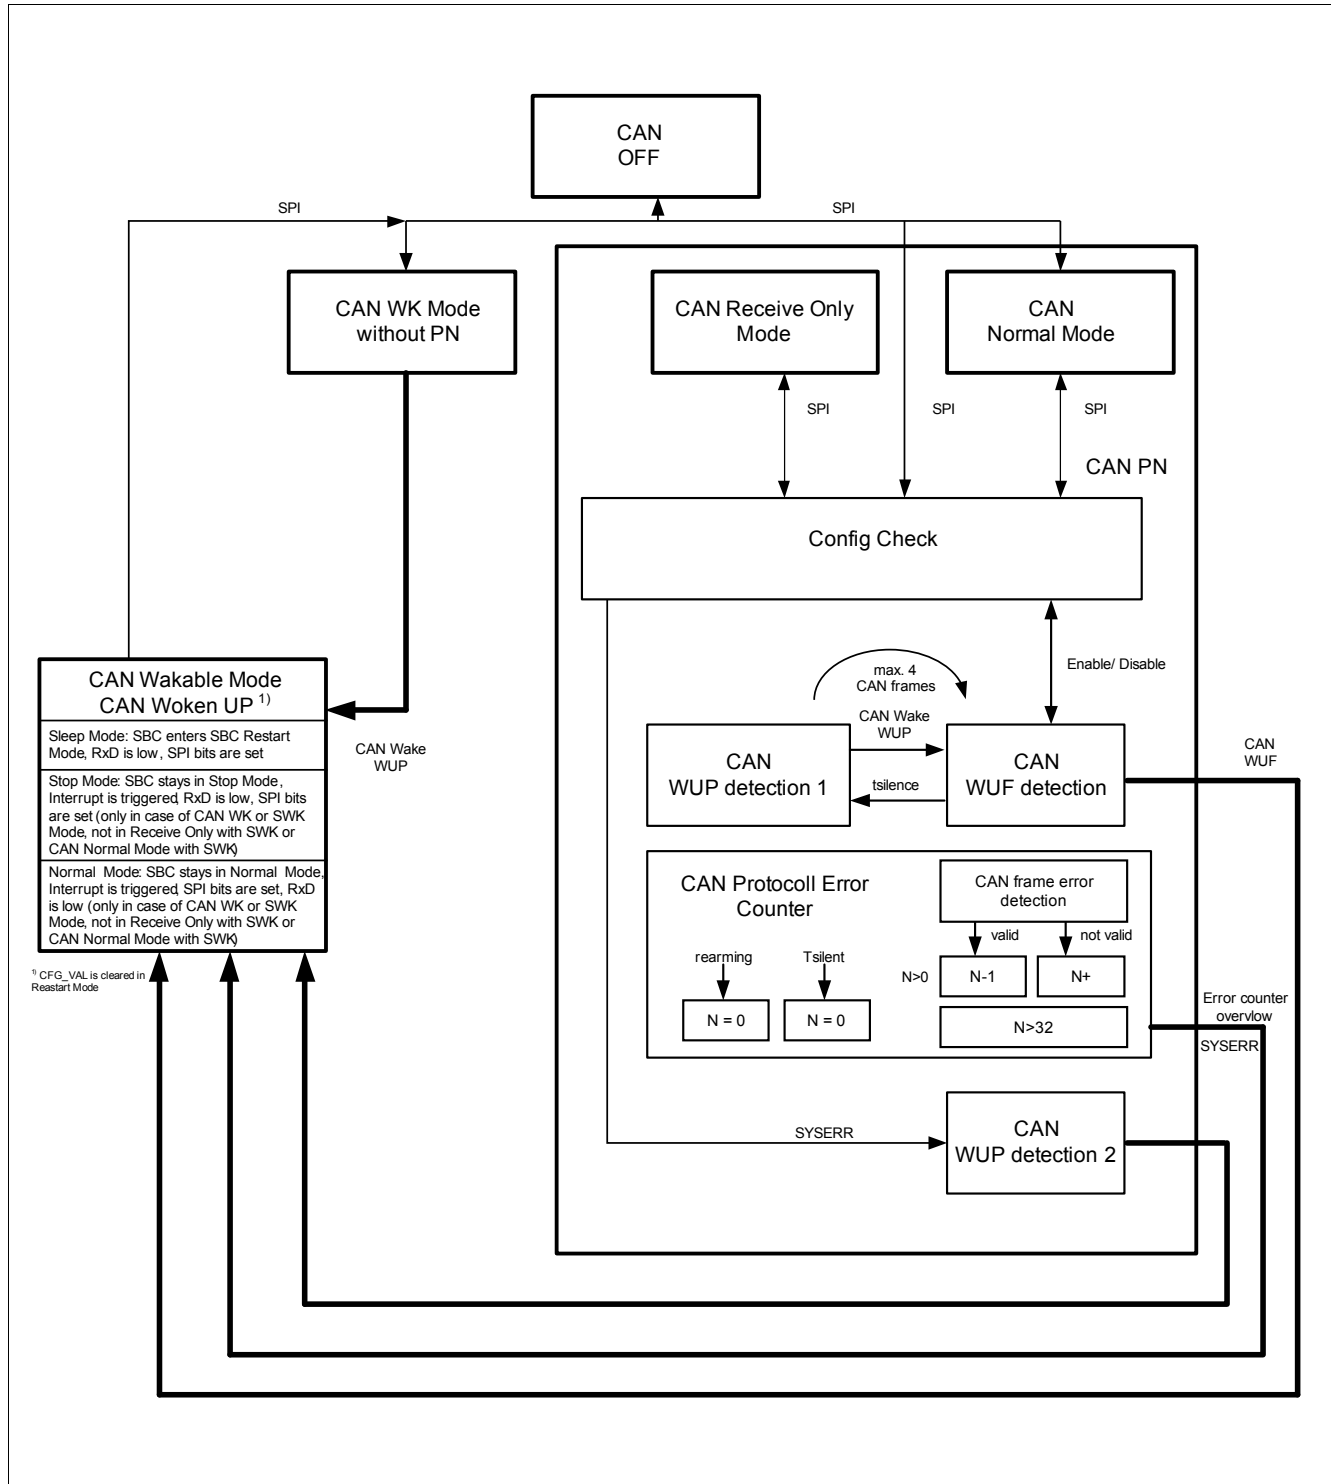

Figure 11 CAN Selective Wake State Diagram
*Note: It is possible that WUF and WUP bit are set at the same time if a WUF causes a wake out of SWK, by setting the interrupt or by restart out of SBC Sleep Mode. The reason is because the CAN has been in WUP detection 1 state during the time of SWK mode (because of t_{SILENCE}). See also **Figure 11**.*
The **SWK_SET** bit is set to signalize the following states (see also **Figure 11**):